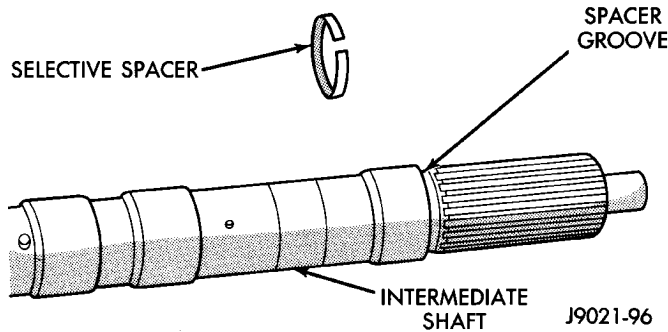

Fig. 36 Intermediate Shaft Selective Spacer Location
(6) Install selective spacer on intermediate shaft, if removed. Spacer goes in groove just rearward of shaft rear splines (Fig. 36).